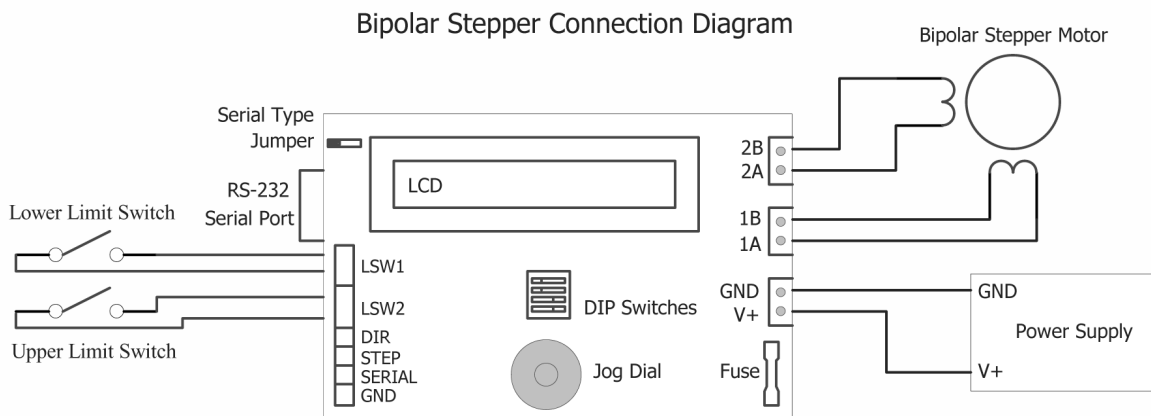
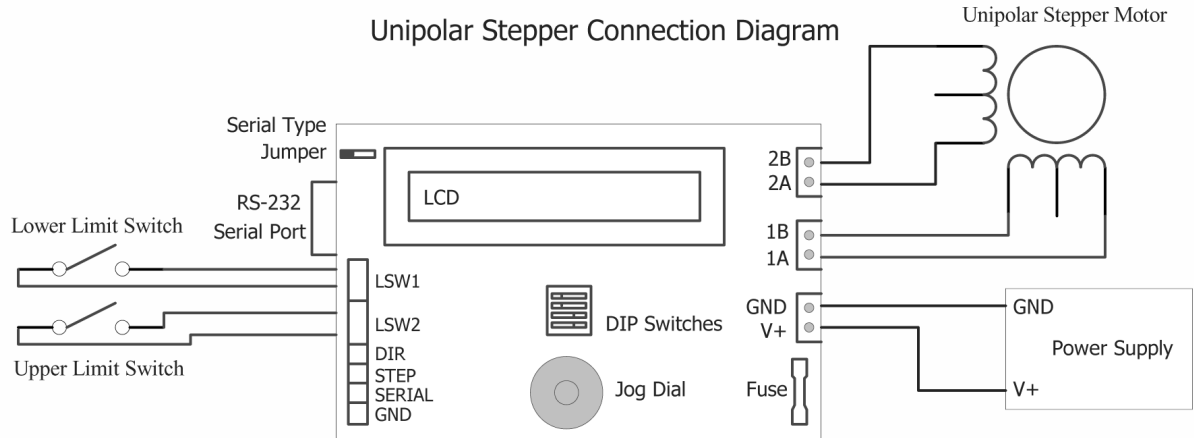

Figure 1 – Bipolar Stepper Motor Connections.
Figure 2 – Unipolar Stepper Motor Connections.
- 1) Connect the power supply, motor and controller board as indicated in figure 1 for a bipolar stepper motor or figure 2 for a unipolar stepper motor.